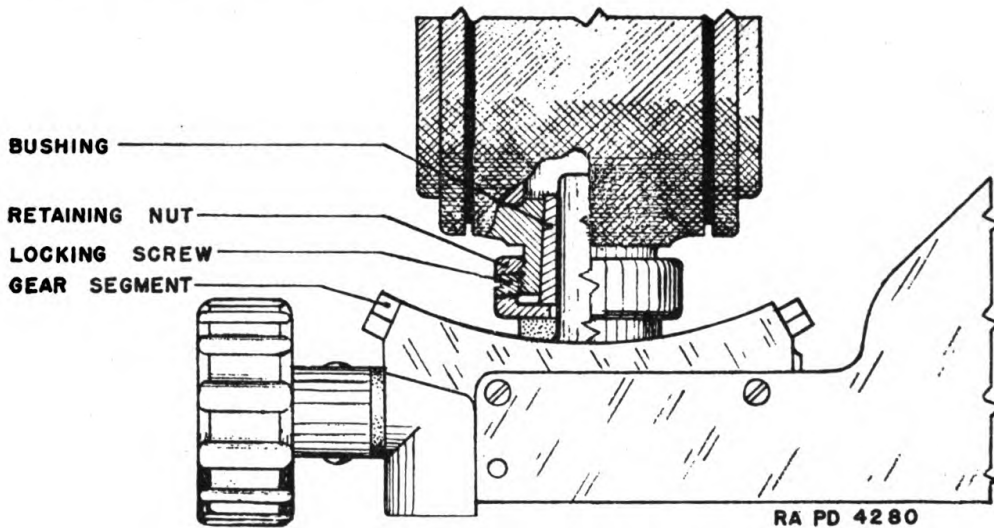
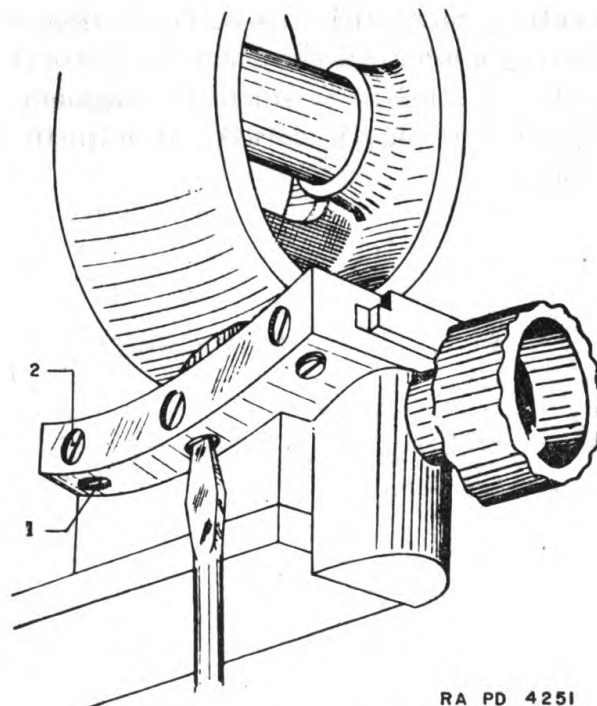
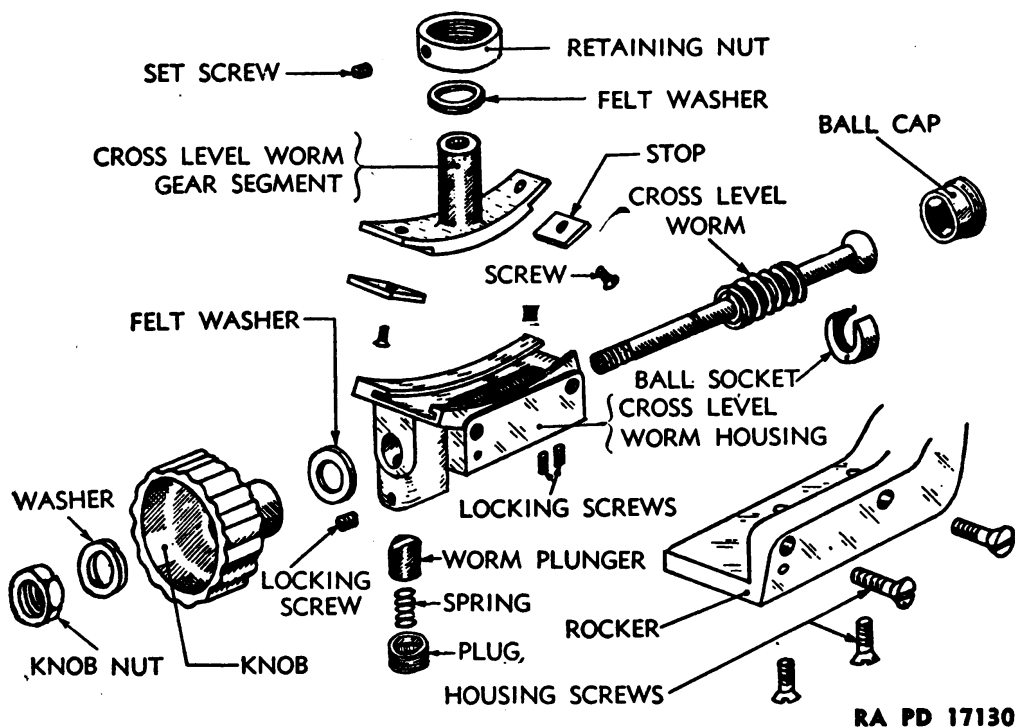

FIGURE 14.—Cross level gear segment and associated bushing adjustment.
FIGURE 15.—Adjustment of gib screws.
FIGURE 22.—Exploded view of cross-leveling mechanism.
*b. Gib adjustment.*—Loosen the retaining nut (fig. 14) by first loosening the locking screw. Loosen the locking screw (1, fig. 15) and adjust the screws (2) so that the segment can be moved in the cross
*g. To disassemble cross-leveling mechanism.*—Reference should be made to figure 22 in regard to disassembling procedure for this mechanism.
(2) Remove the plug (fig. 22) by first loosening the locking screw. Unscrew the cross-leveling retainer knob and remove the washer and knob. Slide off the felt washer. Unscrew the ball cap after first loosening the headless locking screws. Remove the cross level worm together with the ball socket from the housing.
(3) Slide the worm housing from the cross level segment by first loosening the locking screws (1, fig. 15) and gib adjusting screws
(2, fig. 15). Loosen the retaining nut (fig. 22) by first loosening the locking screw. Extract the cross level segment together with washer from the telescope body. The disassembly may be carried out further if necessary.